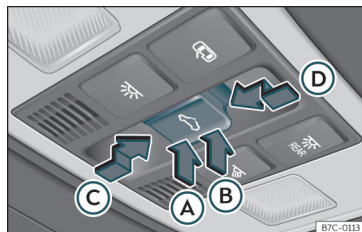

Fig. 117 On the interior roof lining: sunroof button.
- *Sunroof*: within approximately 5 seconds of having activated the roll-back function, press the ⇄ button >>> Fig. 117 to the second level in the direction of arrow >>> Fig. 117 (D) until the sunroof closes completely.